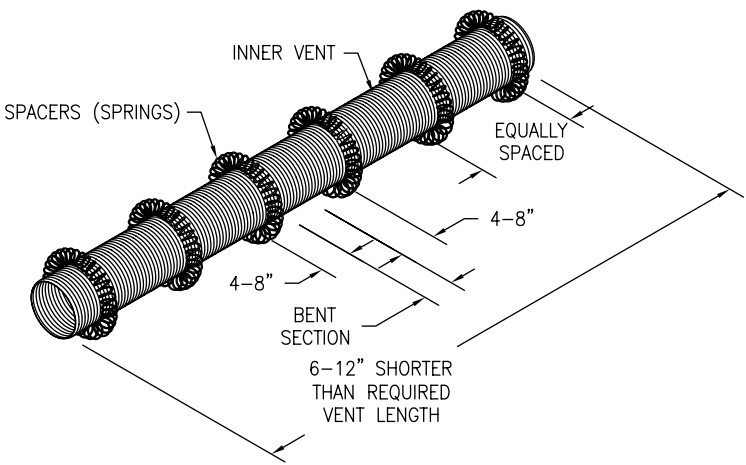

**Figure 3**
5. From outside the building, position the outer wall mount plate and direct vent-air intake terminal over the center of the opening. Mark the mounting screw hole locations. With a 3/16 inch (.5 cm) diameter drill bit (not supplied), drill holes for the wall anchors (supplied). Install the wall anchors but **DO NOT** affix the outer wall mount plate and direct vent-air intake terminal to the wall at this time (See Figure 3). Note: Certain construction of walls may require the use of a different type of wall anchoring means than supplied. **DO NOT** modify the direct vent-air intake terminal or outer wall mount plate.